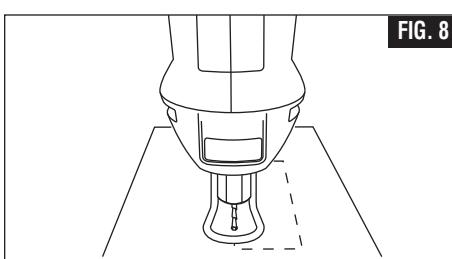

FIG. 8
Step 4: Slowly bring it to a 90° angle to begin the cut. The depth guide should be flush to the material surface (Fig. 8).